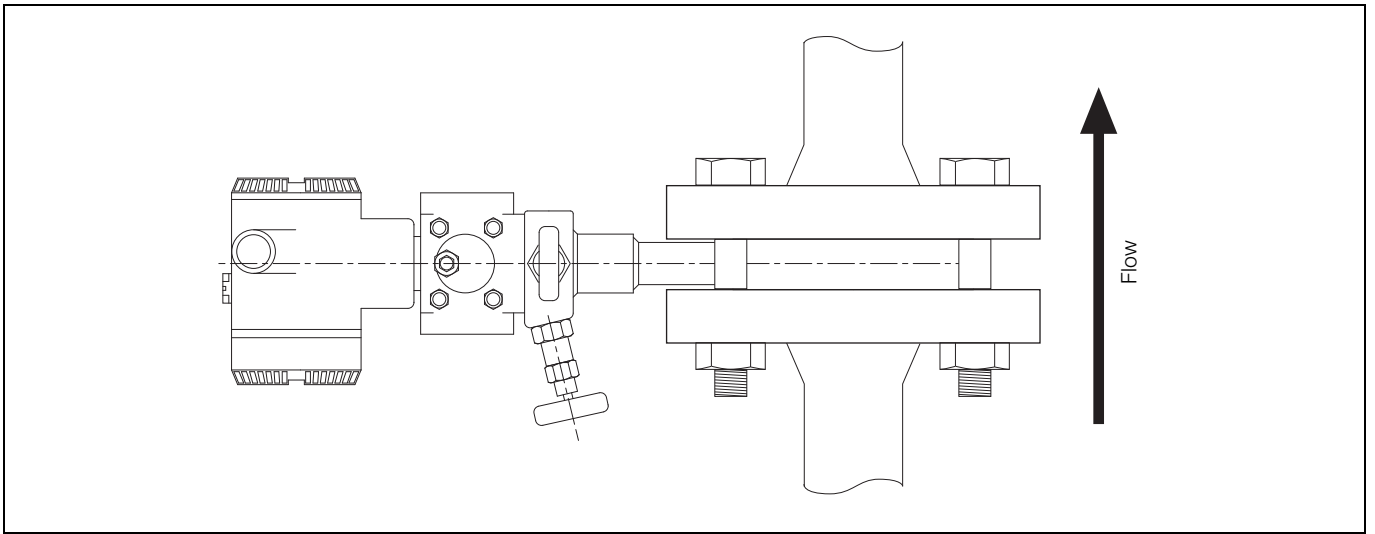

Fig. 2.5 Vertical Pipe Mounting – Liquid or Gas
Install the meter as shown In Fig. 2.5.
- for vertical pipe mounting – liquid or gas, refer to Fig. 2.5.